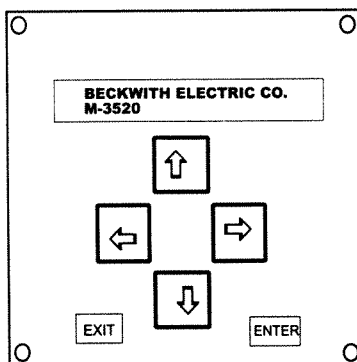

Figure A-1 Human-Machine Interface Module
- A. All unshaded screens shown on forms require data inputs. Whatever is in that screen when **ENTER** button is pushed (see Figure A-1) will be installed in the M -3520 relay.